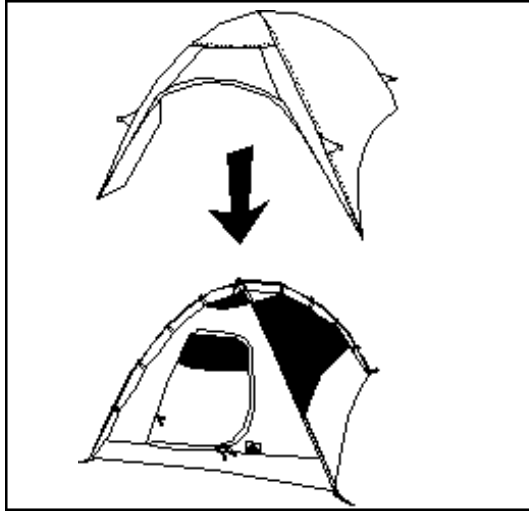

Figure 5
8. Find a blue awning on the fly. This will be the awning over entrance at the front of the tent. Drape the fly over the tent body (figure 5).